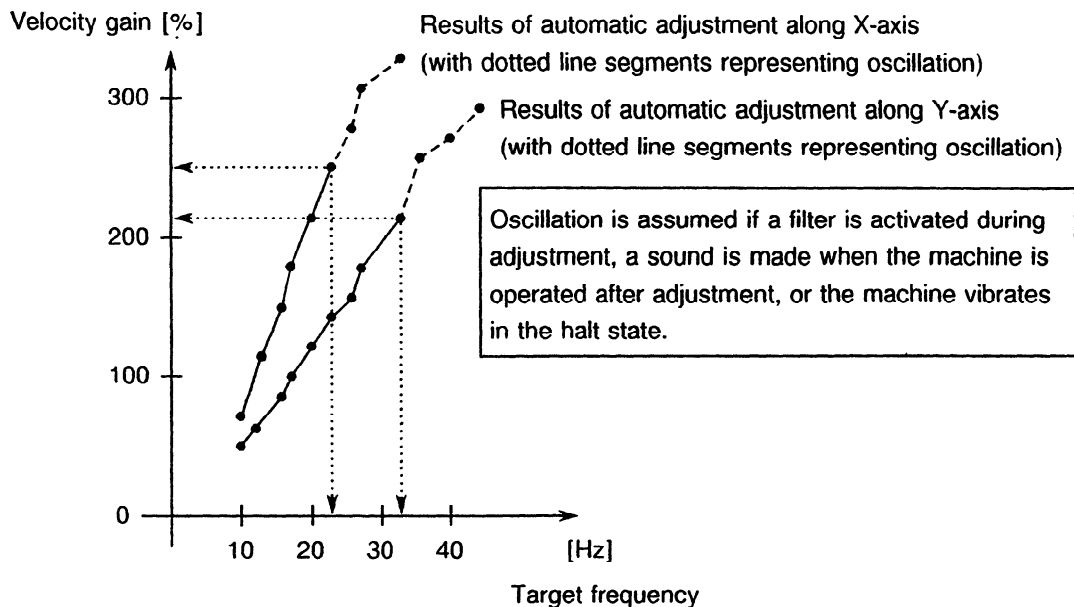

Fig. 2.7.1 Example of Results of Automatic Adjustment
The results of automatic adjustment can be viewed easily by plotting the results as shown in Fig. 2.7.1 with the inverses of the target periods (band frequencies) along the horizontal axis and velocity loop gains along the vertical axis.
Fig. 2.7.1 shows the results of automatic adjustment along the X-axis and Y-axis of a machine. Theoretically, the target frequencies (inverses of target periods) are proportional to the velocity gains. As a higher target frequency (shorter target period) is used, velocity loop oscillation can occur more easily during automatic adjustment. In such a case, the results of adjustment become less precise. In addition, a shorter target period activates the torque command filter during automatic adjustment. Ultimately, the adjustment becomes impossible, and a longer
target period is used automatically. This phenomenon occurs in the dotted line segments in Fig. 2.7.1. So in this example, the maximum allowable velocity loop band frequency is about 22 Hz for the X-axis, and about 33 Hz for the Y-axis.
Thus, automatic adjustment can be regarded as having the function of a sort of measuring equipment that quantitatively relates a physical quantity (velocity loop response characteristic) with the velocity loop gain parameter of the digital servo. Furthermore, automatic adjustment can be regarded as a means of setting a gain that matches the environment where the machine is used, and also as a means of checking the mechanical rigidities of the axes, based on the results of adjustment as shown in Fig. 2.7.1.
(2) Determining the velocity loop gain using the results of automatic adjustment
As described in (1) above, the automatic adjustment function does not directly implement an optimal state for each axis, but is a means of determining a velocity loop gain to achieve a given target period. Accordingly, a velocity loop gain needs to be determined from Fig. 2.7.1, depending on the situation.